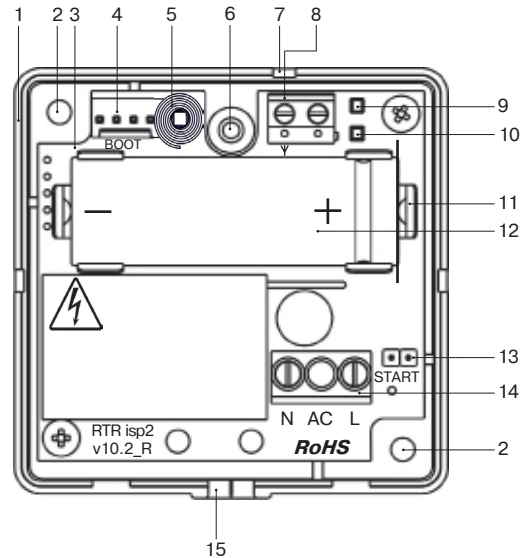

Figure 1 – RTR with removed cover
4.5 When installing the battery, observe the correct polarity shown in Figure 1.
The RTR layout with removed cover is shown in Figure 1. The base (1) comprises the following elements:
- two holes (2) for RTR fastening to mounting surface;
- hole (6) for cover fixation;
- openable hole (7) for antenna installation;
- recess (15) for power cord wiring.
9.4 Energize the RTR from the storage battery by closing START contacts (Fig.1 pos.13) by current-conducting item until green and red LEDs light up.
11.3 Press tamper contact (Fig1, pos.5) and hold it during several seconds.